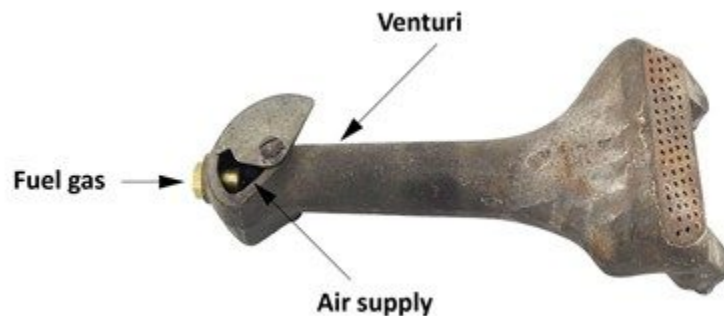

Figure 1 Atmospheric burner
- Figure 1 Boiler product summary sheet © Lochinvar (<https://www.lochinvar.com/products/commercial-boilers/classic-knight-xl/>). Used with permission.
Non-mechanical or “atmospheric burners” rely on atmospheric pressure to supply the required combustion air. An atmospheric burner has a venturi that sucks primary air into the burner and mixes the air and gas before ignition (Figure 1).